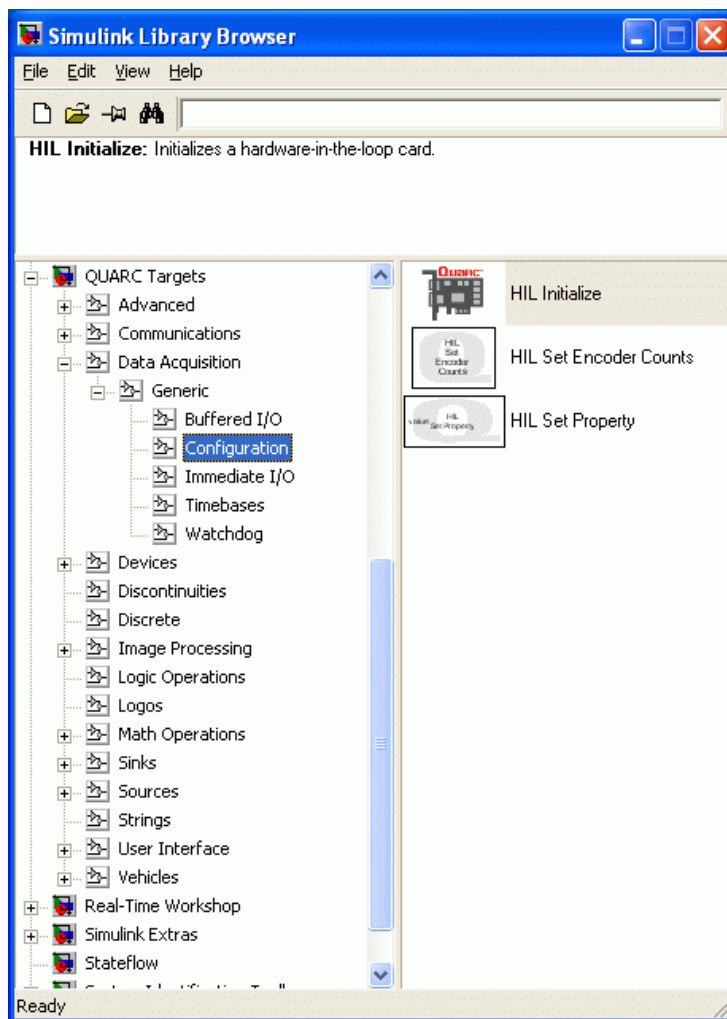

Figure 2: QUARC Configuration folder in the Simulink Library Browser window.
4. As illustrated in Figure 2, expand the *QUARC Targets* item and go to the *Data Acquisition \ Generic \ Configuration* folder.